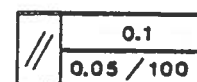

Fig. 21
4.6 If, to the tolerance on the whole feature, another tolerance of the same type but smaller and restricted on a limited length is added, the latter tolerance should be indicated below the former (see Fig. 21).
Fig. 21 a